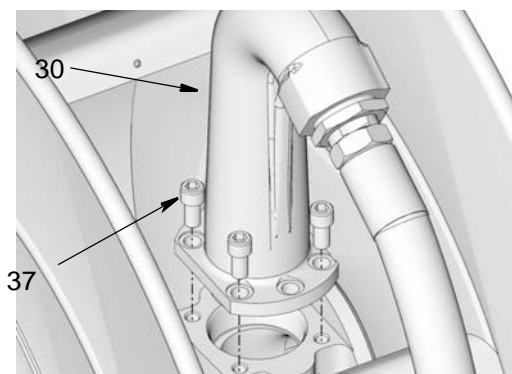

FIG. 68: Low Pressure Model Shown.
15. Install outlet (30) to spool. Replace and tighten all bolts (37) securely. Torque bolts to 24 to 30 ft. pounds (32.54 to 40.67 N.m) (FIG. 68).
- Low Pressure Models (shown in FIG. 68) use 4 bolts (37).
- Medium Pressure Models (not shown) use 6 bolts (37).